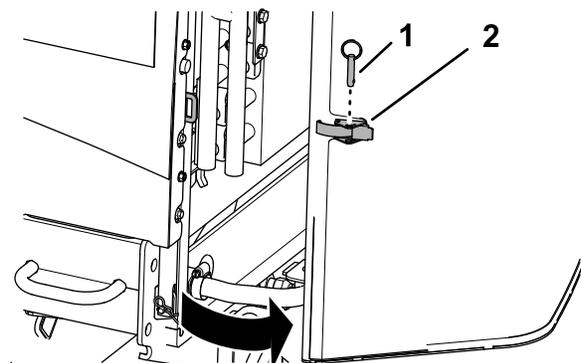

Figure 66
1. Remove the ball pin from the screen latch (Figure 66).